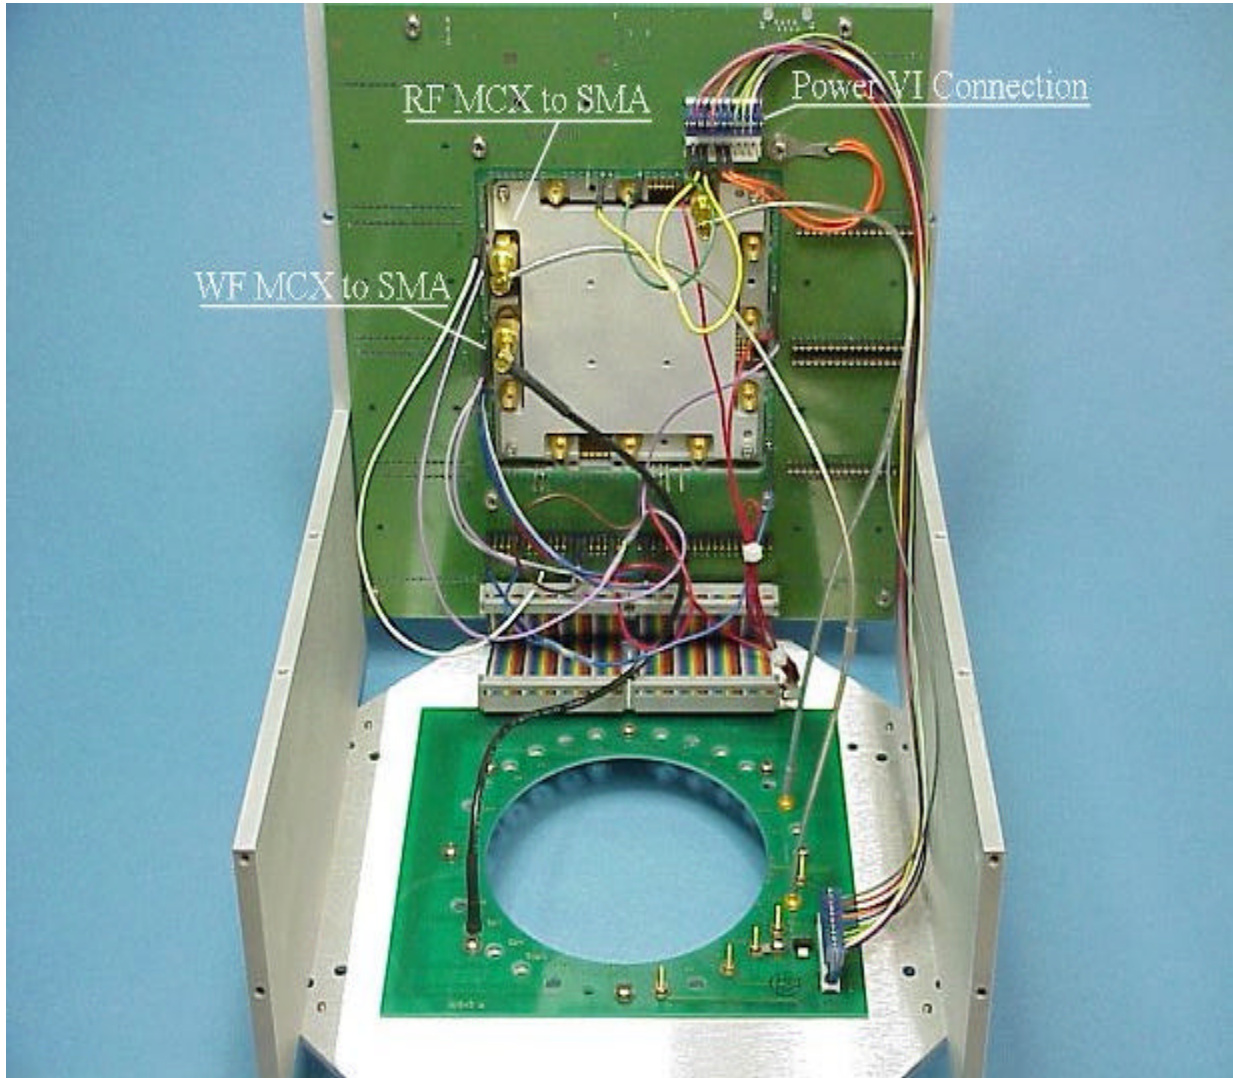

Figure 9
1. Attach the **top plate assembly** to the **bottom plate assembly** as shown in Figure 9. This is not the final configuration but will assist access during the debug process.
2. Attach the **RF cables** and the **WF cables** to their designated RF connections on the top plate. These locations are determined by the fixture schematic for the specific application. See Figure 9. Also attach the **Power VI** harness and the **40 conductor ribbon cables**.